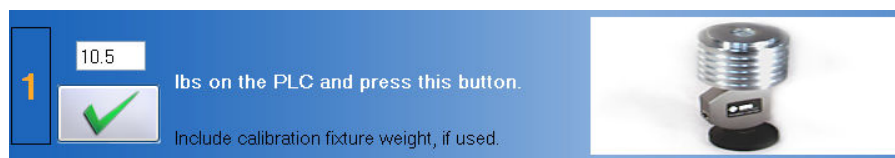

Figure 7-10. Portable Load Cell - Verify the Weight
Step 2. Place the 10 lb calibration weight on the calibration disk and type **10.5** (calibration disk plus calibration weight) in the text field (Figure 7-10).
Step 3. Click on  to verify the weight (Figure 7-10).